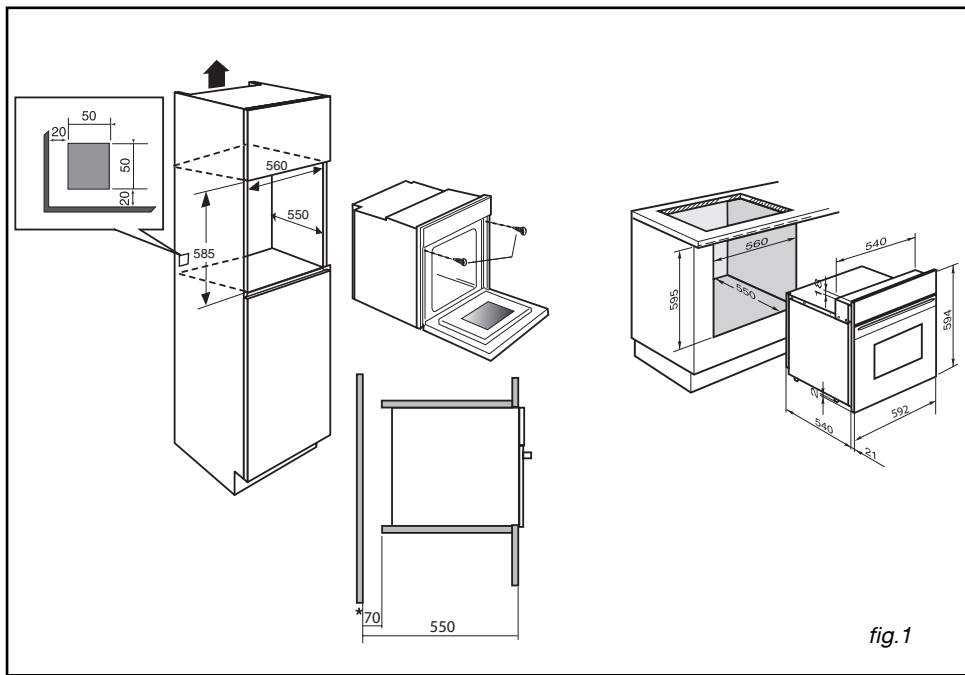

fig.1
- For greater stability, attach the oven in the cabinet with two screws through the holes provided for this purpose on either side of the front inner panel (fig.1).